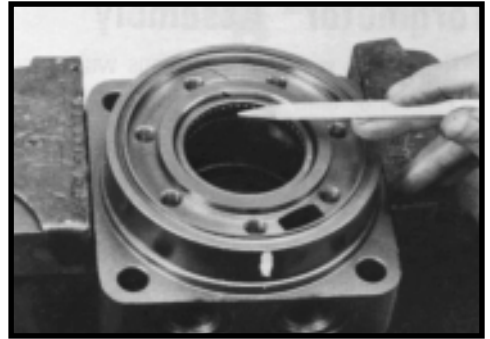
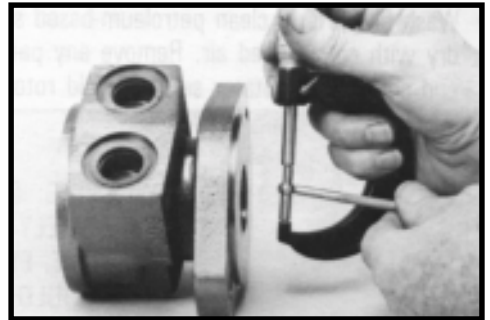

Figure 27
Figure 28
21. If the housing (18) assembly has passed inspection to this point, inspect the housing bearings/bushings (19) and (13) and if they are captured in the housing cavity the two thrust washers (14) and thrust bearing (15). The bearing rollers must be firmly retained in the bearing cages, but must rotate and orbit freely. All rollers and thrust washers must be free of brinelling and corrosion. SEE FIGURE 27. The MG Series bushing (19) or (13) to coupling shaft diameter clearance must not exceed .010 inch (.025 mm). A bearing, bushing, or thrust washer that does not pass inspection must be replaced. SEE FIGURE 28. If the housing has passed this inspection the disassembly of the Torqmotor™ is completed.